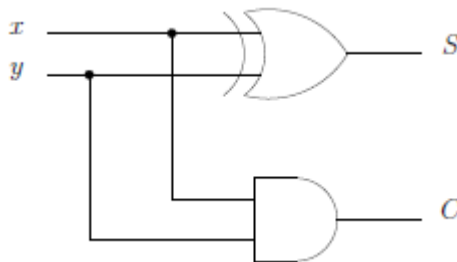

Figure 1: Half Adder Circuit
- 2.1. Write a gate-level Verilog program to implement the half adder circuit shown in Figure 1